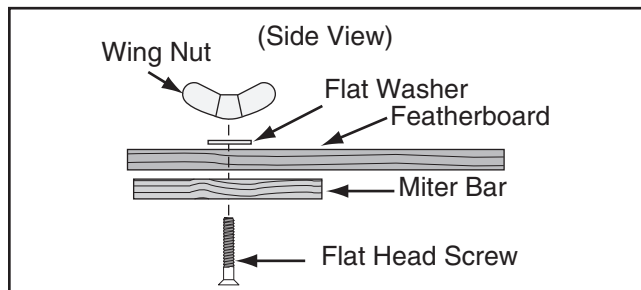

Figure 78. Assembling miter slot featherboard components.
8. Assemble miter bar and featherboard with a $\frac{1}{4}$ "-20 x flat head screw, flat washer, and a wing nut or a star knob (see **Figure 78**). Congratulations! Your featherboard is complete.